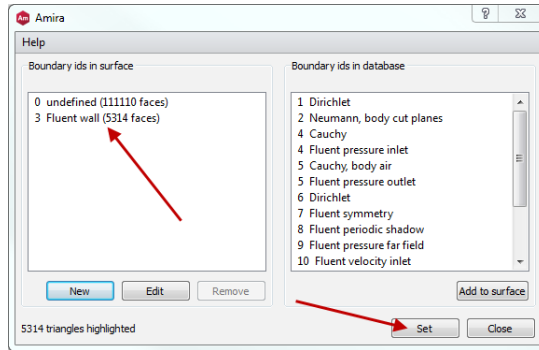

Figure 5.33: Setting the boundary ids.
- Repeat the operation as many times as needed to have no face left undefined (see Figure 5.33).